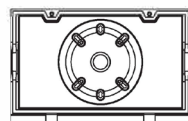

Fig. 6
4. Line up the back plate in the desired location and mount securely (hardware not supplied) (Fig. 6)